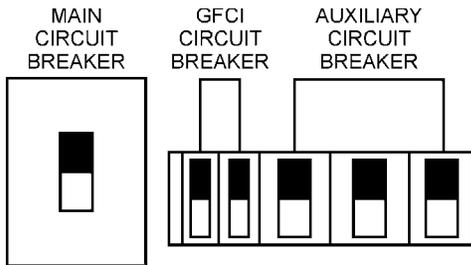

Figure 54. Main, Aux. and GFCI Circuit Breakers (ON)
- Place the **main, GFCI, and aux.** circuit breakers in the **ON** position (Figure 54).